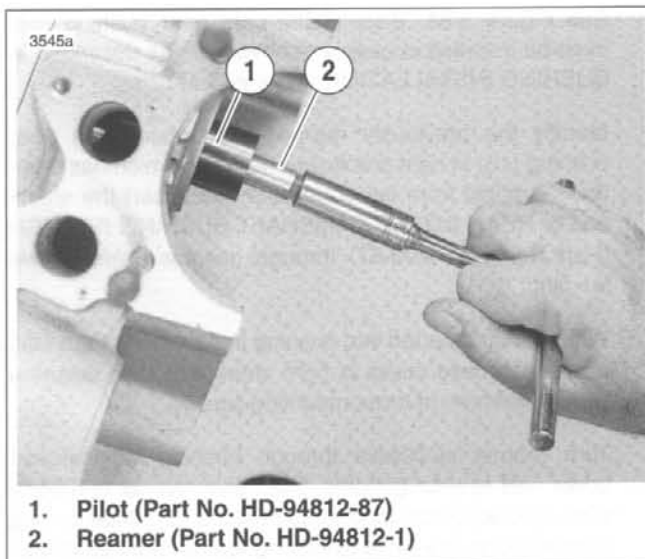

Figure 3-74. Line Reaming Pinion Shaft Bushing
2. See Figure 3-74. Install PINION SHAFT BUSHING REAMER PILOT (Part No. HD-94812-87) into right crankcase roller race. Insert PINION SHAFT BUSHING REAMER (Part No. HD-94812-1) through the pilot.